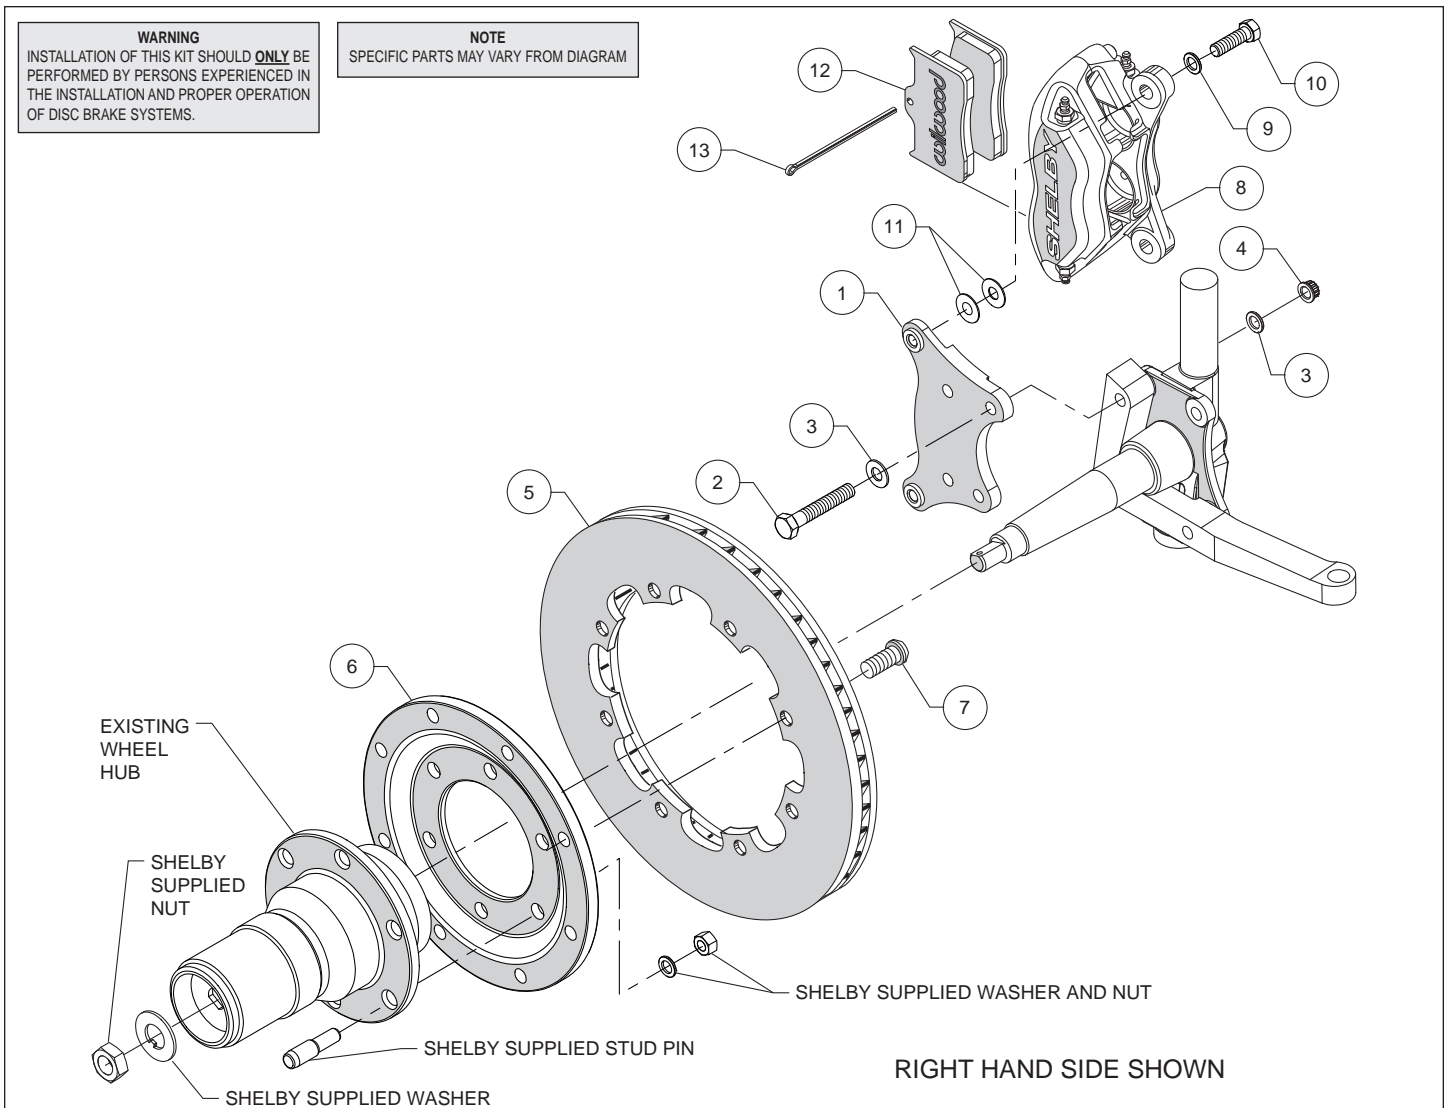
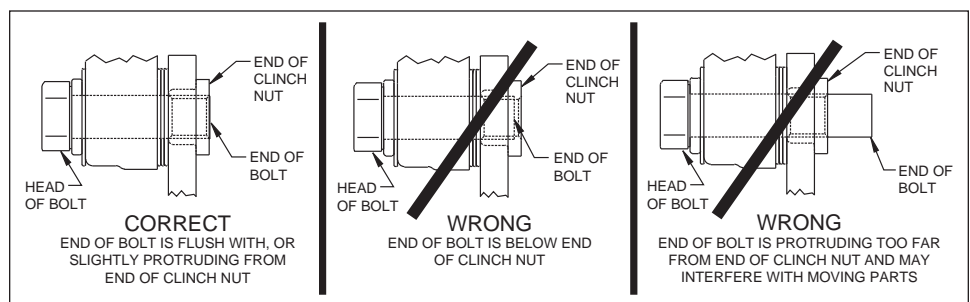

Figure 1. Typical Installation Configuration
Figure 4. Clinch Nut Engagement Diagram
Assembly Instructions (numbers in parenthesis refer to the parts list and Figure 1 on the preceding pages): **CAUTION:** All mounting bolts must fully engage clinch nuts. Be sure to check that all bolts are either flush or protruding through flanged side of clinch nut after shimming, Figure 4.
- Orient the caliper mount bracket (1) as shown in Figure 1 and install using bolts (2), washers (3) and nuts (4). Ensure that the flanged heads of the clinch nuts in the bracket are facing outboard, Figure 1. Temporarily tighten the mounting bolts.
- Orient the rotor (5) and the rotor adapter (6) as shown in Figure 1 and Photo 1. Attach the rotor to the adapter using bolts (7). Using an alternating sequence, apply red *Loctite*® 271 to the threads, and torque to 25 ft-lb.
- Mount the adapter/rotor assembly (5/6) to the hub (customer supplied) using stud pin, washer and nut (all customer supplied), as shown in Figure 1. Using an alternating sequence, apply red *Loctite*® 271 to the threads, and torque nuts to manufacturer's specifications.
- **NOTE:** Please reference the caution statement at the beginning of the assembly instructions. Mount the caliper (8) onto the caliper mounting bracket (1) using bolts (10) and washers (9), as shown in Figure 1. Initially place two .035" thick shims (11) on each bolt between the caliper and the bracket, Photo 2. Temporarily tighten the mounting bolts and view the rotor (5) through the top opening of the caliper. The rotor should be centered in the caliper, Photo 3. If not, adjust by adding or subtracting shims between the bracket and the caliper. Always use the same amount of shims on each of the two mounting bolts. **NOTE:** The end of each bolt must be flush with or slightly protruding from the head of the clinch nut, as shown in Figure 4. If necessary place spare shims between washer (9) and caliper mounting ear to achieve the proper clinch nut engagement. Once the caliper alignment and clinch nut engagement are correct, remove the bolts one at a time, apply red *Loctite*® 271 to bolt threads, and torque to 40 ft-lb.
- Install the disc brake pads (12) into the caliper, with the friction material facing the rotor (5), and secure in place using cotter pin (13), Photo 4.